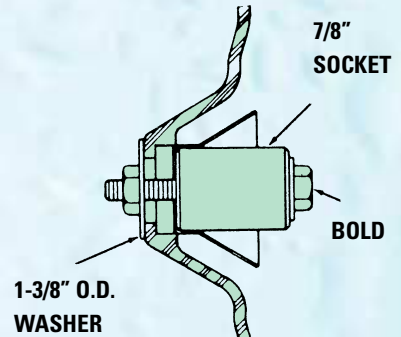

Fig. 7
**C.** Pull insert into cavity (see Figure 7).